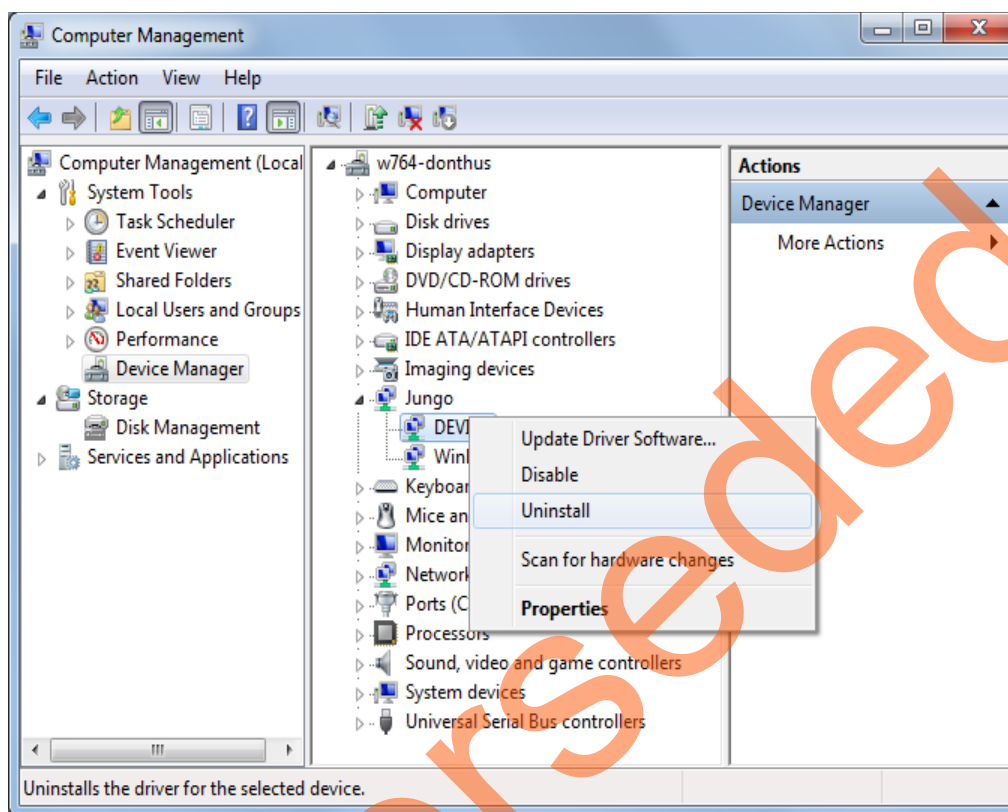

Figure 9 • Uninstalling Jungo Driver
- a. To uninstall previous Jungo drivers go to device manager and right-click on **DEVICE**. Refer to Figure 9.